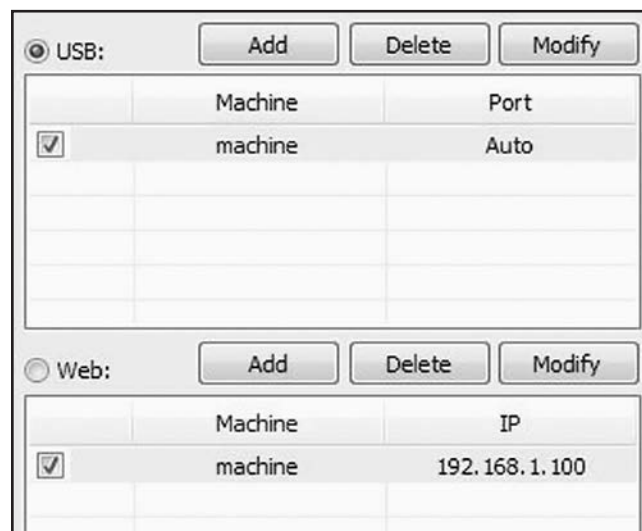

Figure 36. Device port dialog box.
3. In RDWorks output panel, select "USB:Auto" to open "Device Ports" dialog box, as shown in **Figure 36**.
6. Click "Ok" to return to output panel (see **Figure 36**).
3. In RDWorks output panel, select "USB:Auto" to open "Device Ports" dialog box (see **Figure 36** on **Page 35**).